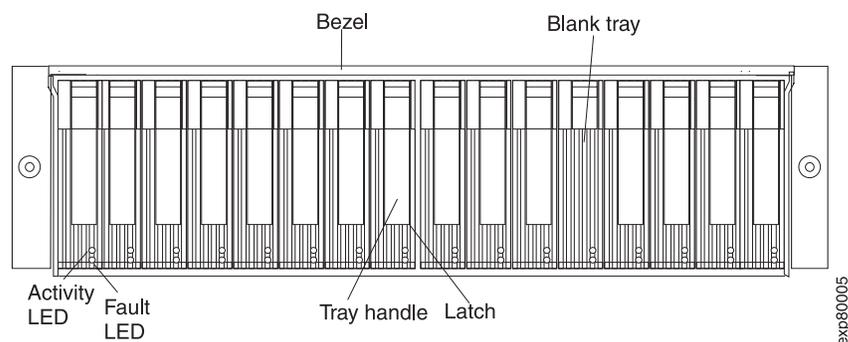

Figure 43. Hot-swap EV-DDM LEDs
2. Check for Fault LEDs shown in Figure 43. If any amber LEDs are lit, see “Solving problems” on page 101.